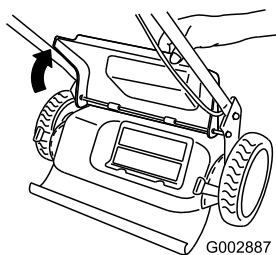

Figure 29
4. Raise and hold up the rear door (Figure 29).